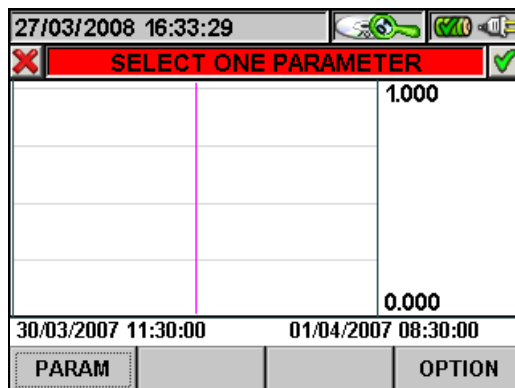

Fig. 98: Selecting a parameter
- The **ESC** key (or smart icon ) to exit the function and go back to the "Selecting a parameter" page (Fig. 98).
- The **ESC** key (or smart icon ) to exit the function and go back to the “Selecting a parameter” page (Fig. 98).
3. Press the **ESC** key (or the smart icon ) to exit the function and go back to the “Selecting a parameter” page (Fig. 98).